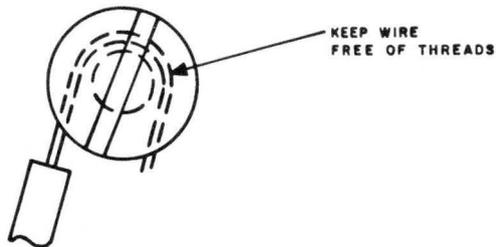

Fig. 9—Terminating Wire at Screw Terminals
7.01 To terminate conductor at a screw terminal, bend the wire clockwise in a hairpin loop around the screw. Push conductor away from the screw, especially finer gauge conductors, to prevent the wire from being caught in the threads and getting broken when the screw is tightened. (See Fig. 9).